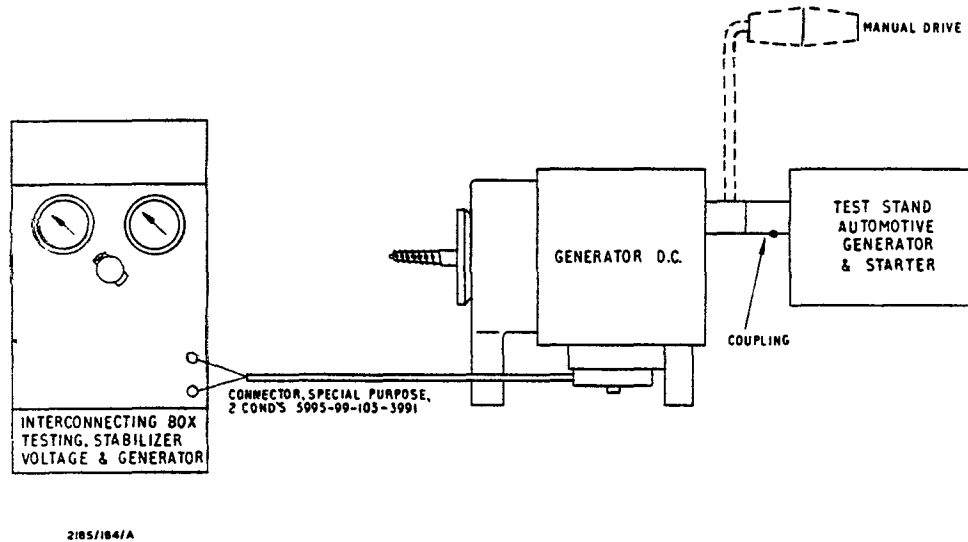

Fig 10 - Generator d.c., test arrangement
- (1) Connect up as shown in Fig 10, switch the test box to position 3.
- (2) Turn the handle at between 60 and 75 rev/min.
- (3) The lamp is to be lit and the output voltage shown on METER 2 is to indicate between calibration marks 2 ($14.2V$) and 6 ($14.6V$).
- (4) Operate the LOAD switch, the output voltage is to remain between $14.2V$ and $14.6V$ and the load current (METER 1) will read approximately 2A.
- (5) Under the conditions of (4) the output voltage and lamp illumination are to be steady at 75 rev/min.
- (1) Connect up as shown in Fig 10, switch the test box to position 8.
- (2) Turn the handle at 65 rev/min.
- (3) Operate the LOAD switch, the output voltage is not to exceed 14.6V and the load current is to be less than 3.0A. The test must not be continued for more than 1 minute.
- (2) Turn the handle at a speed rising from 75 towards 124 rev/min.
- (3) The operation of the overwind protection circuit will be seen by the lamp going out and a sudden reduction of the output voltage, this is to occur at a speed of between 80 and 120 rev/min.
- (1) Connect up as shown in Fig 10, switch the test box to position 3 and operate the LOAD switch.
- (2) Turn the handle at 100 rev/min.
- (3) The output voltage is to be between 14.2V and 14.6V. This test must not be maintained for a period longer than one minute.